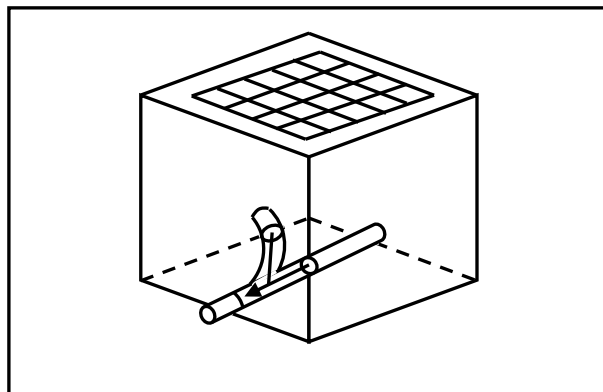

FIGURE 3.2
- 3.2 FIGURE 3.2 below is an illustration of an isometric view of a manhole. Study the illustration and answer the questions that follow.